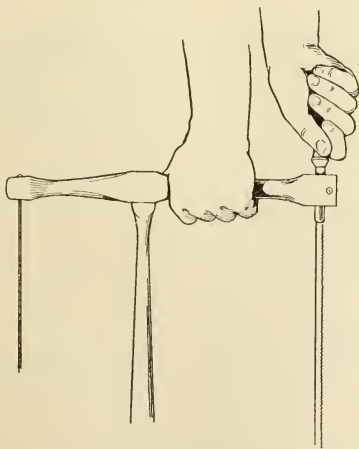

FIG. 85. — METHOD OF HOLDING A TURNING SAW.
5. **Cutting the circle.** — There are two methods of cutting the circle. If you have a turning saw, use it and saw about $\frac{1}{16}$ " outside the line, holding the saw as illustrated in Fig. 85. Then it is necessary to smooth the edge